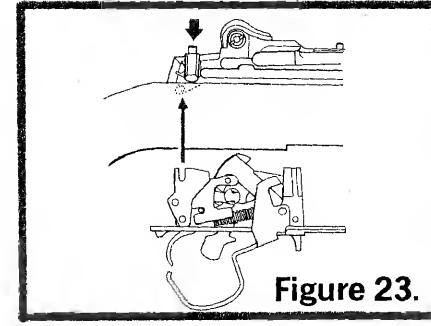

Figure 23.
e. REASSEMBLY—Reassembly of the AC-556 and AC-556K selective fire rifles is accomplished in reverse order to the above. NOTE: The hammer must be cocked, the safety must be in its "ON" position, and the Selector Switch must be in the Semi-Automatic Fire position before attempting reassembly. The Link Positioner Assembly and Selector Arm must be positioned as shown in Figure 23 before reassembly. If these parts are not properly positioned, the trigger mechanism cannot be properly reassembled to the frame.